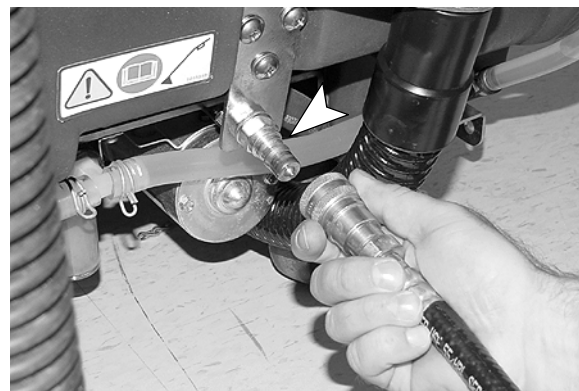

FIG. 45
1. Connect the priming hose to the accessory tool solution hose coupler (Figure 45).